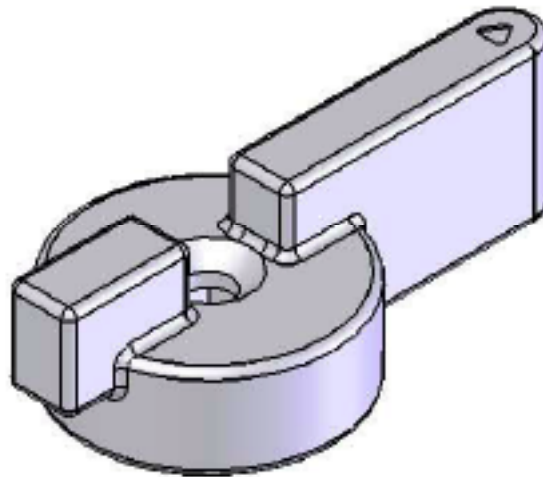
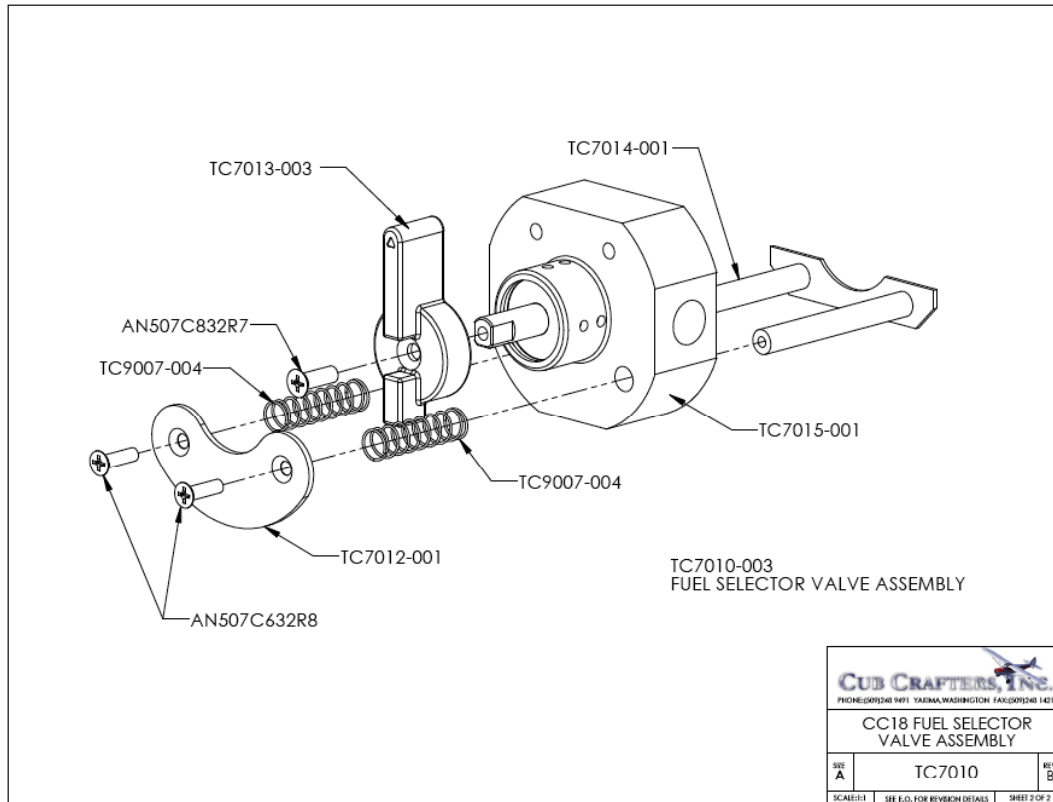

Figure 2 - Fuel Selector Handle TC7013-003
Figure 3 - Fuel Handle Installation
3. Install new fuel selector handle TC7013-003 by screwing it onto the shaft. (Figure 2 and Figure 3)